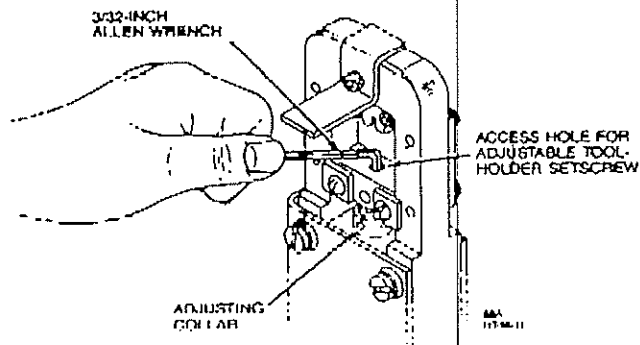

Figure 13
2. Insert the 3/32-inch Allen wrench (supplied with hand tool) through the access hole in the adjustable tool holder and into the socket-head setscrew (see figure 13). Turn the setscrew 1/4-turn counterclockwise to unlock the adjusting collar.